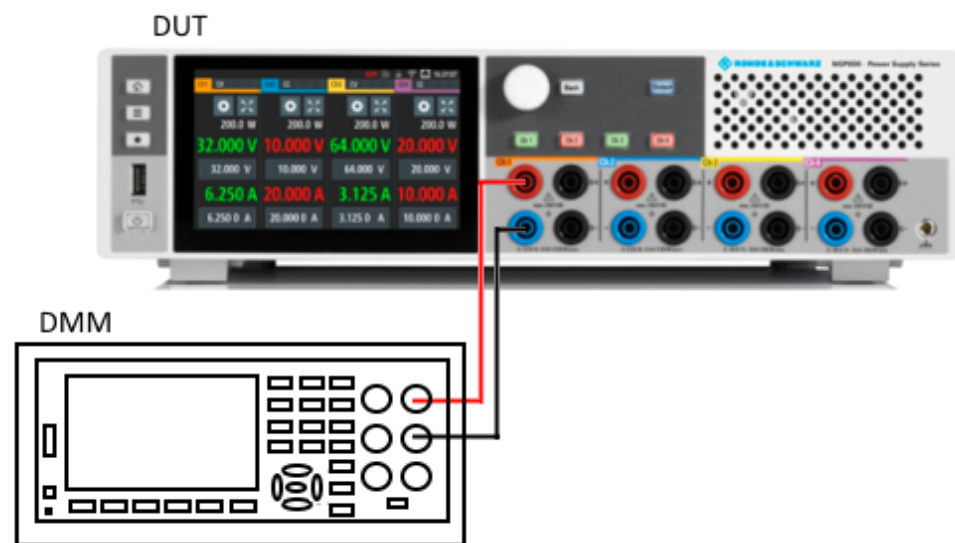

Figure 6-44: Voltage adjustment setup
- Connect the DMM to the instrument and monitor the measured voltage or current. See Figure 6-44 and Figure 6-45.
- Depending on the types of adjustment (voltage or current), setup the instruments illustrated in Figure 6-44 or Figure 6-45.